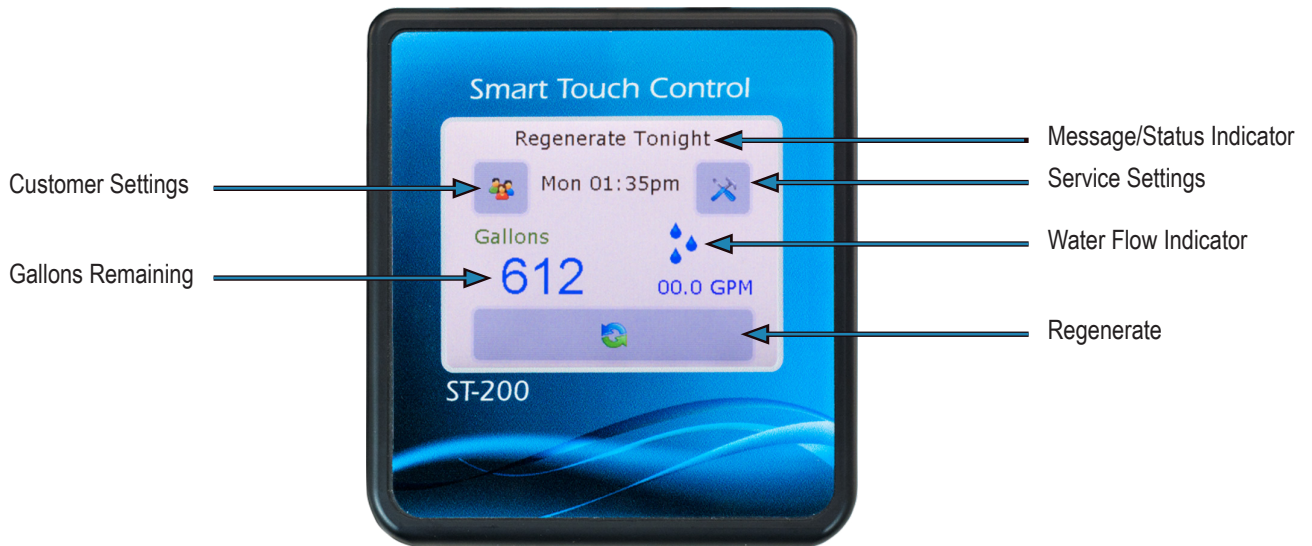

Figure 4: Smart Touch Controller
- D. Open a cold water tap and allow the appliance to flush for 20 minutes or until approximately 72 gallons (270 liters) have passed through the appliance. This procedure is required to meet NSF compliance. Verify the flow rate on the controller, which indicates water flow. See Figure 4.